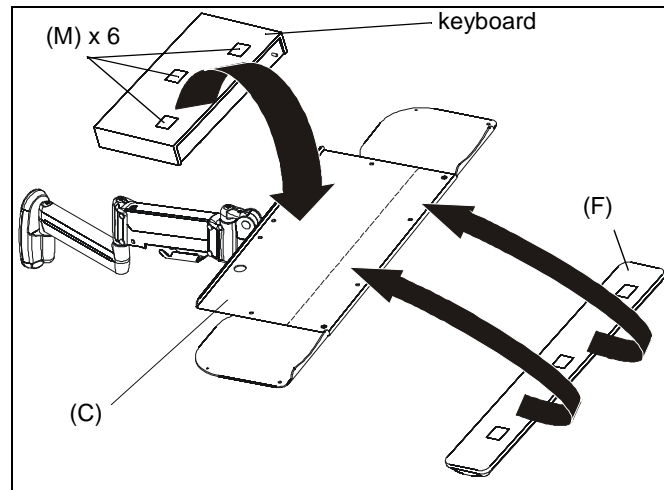

Figure 41
- Remove adhesive backing from one side of hook and loop connectors (M).
- Place hook and loop connectors (M) on bottom of the keyboard and bottom of wrist pad (F) approximately as shown. (See Figure 41)
- Remove the adhesive backing from the other side of the hook and loop connectors (M).
- Firmly place keyboard on keyboard tray making sure to leave room for the wrist pad if necessary. (See Figure 41)
- Firmly place wrist pad (F) on keyboard tray in front of the keyboard. (See Figure 41)